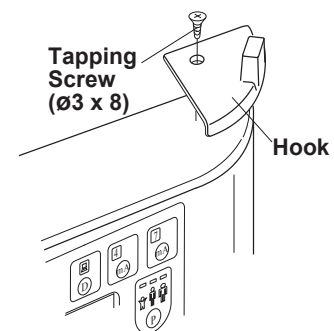

Fig.3-25 Attaching Hand Exposure Switch Hook
5. Place the hook on the top corner (right or left) of controller and attach it with the tapping screw (ø3 x 8mm). (Fig.3-25)